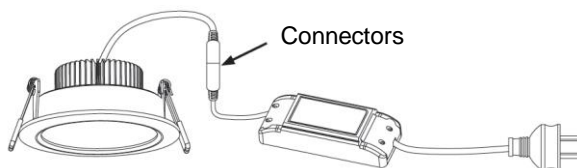

FIG 2
- Ensure the LED driver is connected to the LED Downlight via male and female connectors (FIG 2).